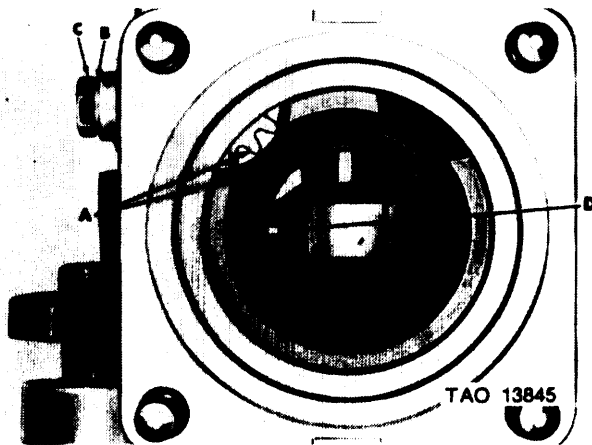
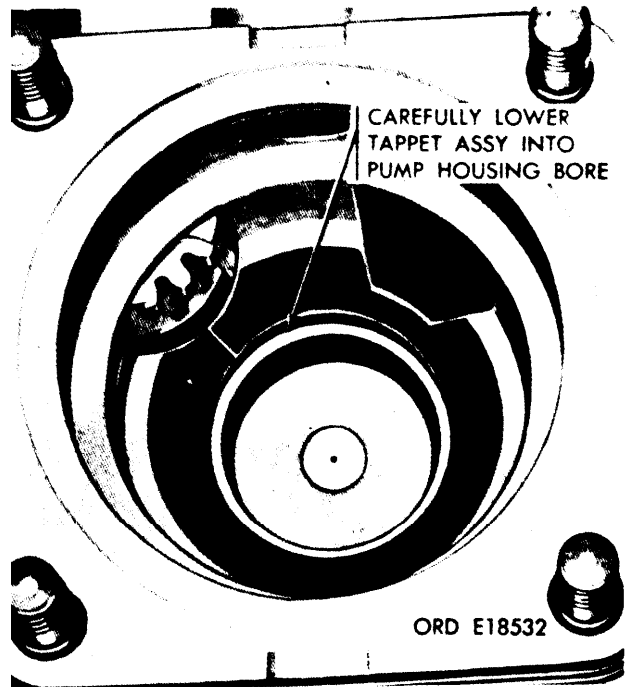

Figure 3-116. Installing quill shaft assembly in housing.
Figure 3-119. Installing tappet assembly.
d. Refer to figure 3-116. Install quill shaft assembly so open tooth aligns with housing mark (A). Install copper gasket (B) and machine screw (C). Torque tighten machine screw to 80-90 inch-pounds and secure with locking wire.
- (1) Refer to figure 3-119. Install tappet assembly after aligning tappet slot with tappet guide pin (D, fig. 3-116).